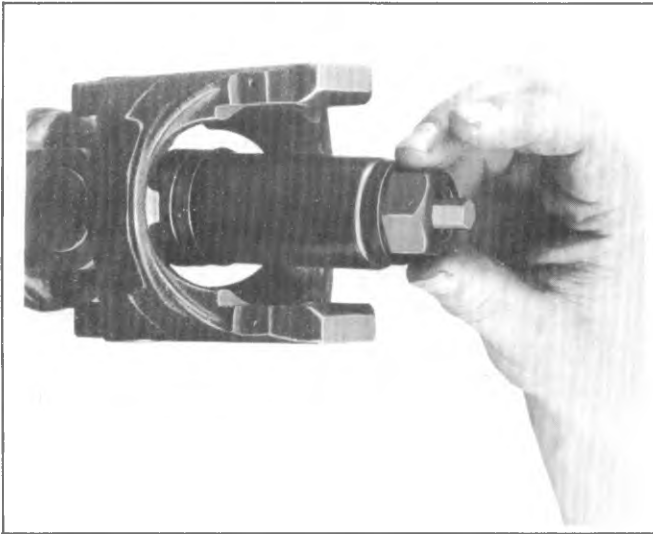

Fig. 4A-28--Installing Outer Cylinder of Tool J-23996 Over Ball
7. Lubricate seal lip and press seal flush with Tool J-23694, as shown in figure 4A-31. Sealing lip should tip inward.